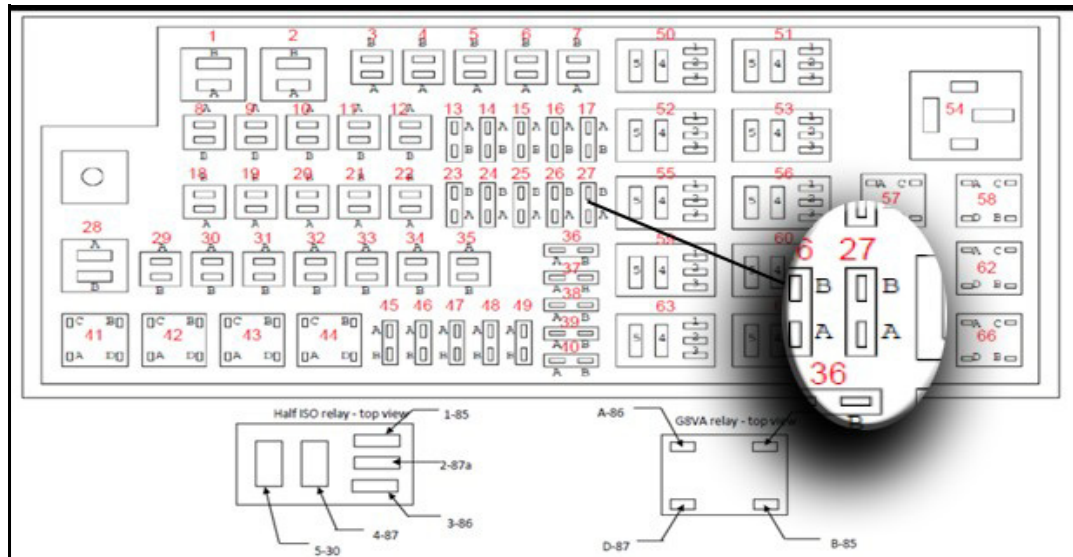

Figure 1B
1.3. Remove fuse #27 (25 amp) solar panel fuse located in the Power Distribution Center (PDC) (Figure 1B).